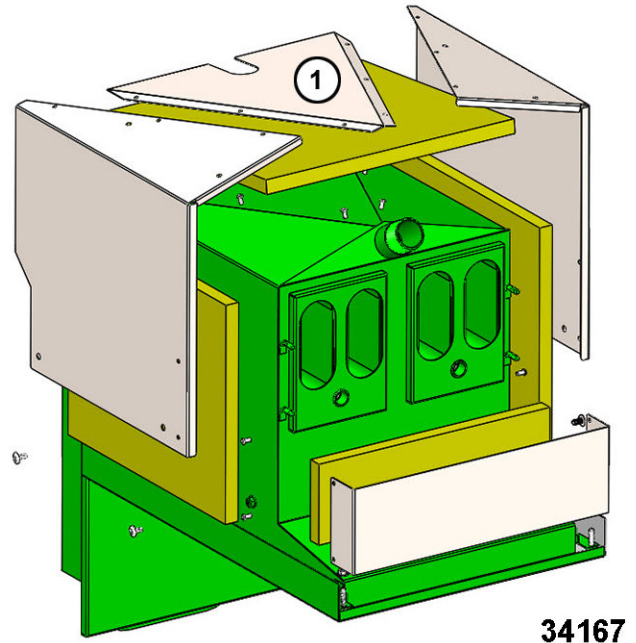

Fig. 104
- A. Install insulation kit (1, in Fig. 104 and Fig. 105) by setting into place and riveting (3/16" blind rivets) sections to itself. Attach kit assembly to tank with four 1/4-20 x 3/8 truss head screws, two on each side.